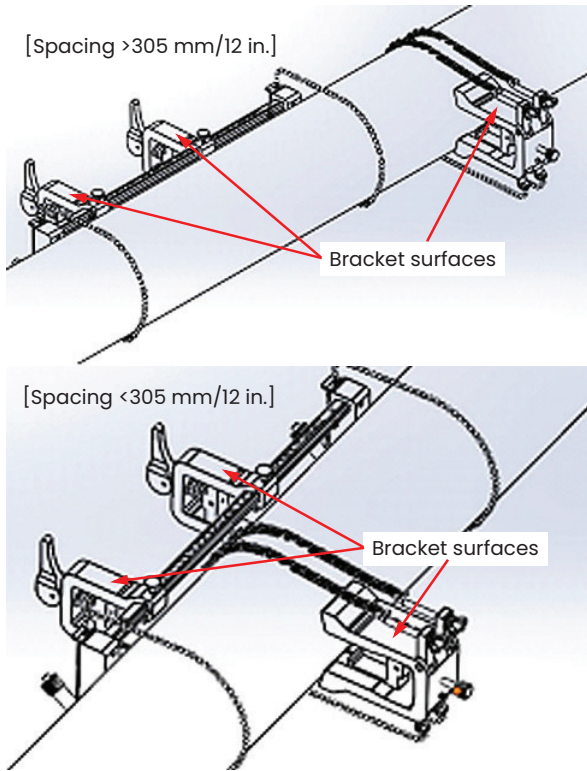

Figure 28: Yoke rotated into horizontal position
- Rotate the yoke until it is located in a horizontal position on the opposite side of the pipe from the previously installed clamping fixture, as shown in Figure 28 below.
- Ensure that the top surfaces of the yoke bracket and the clamping fixture brackets lie precisely in the same horizontal plane (see Figure 28 above). Place the fixed clamp in the clamping fixture at zero on the scale.